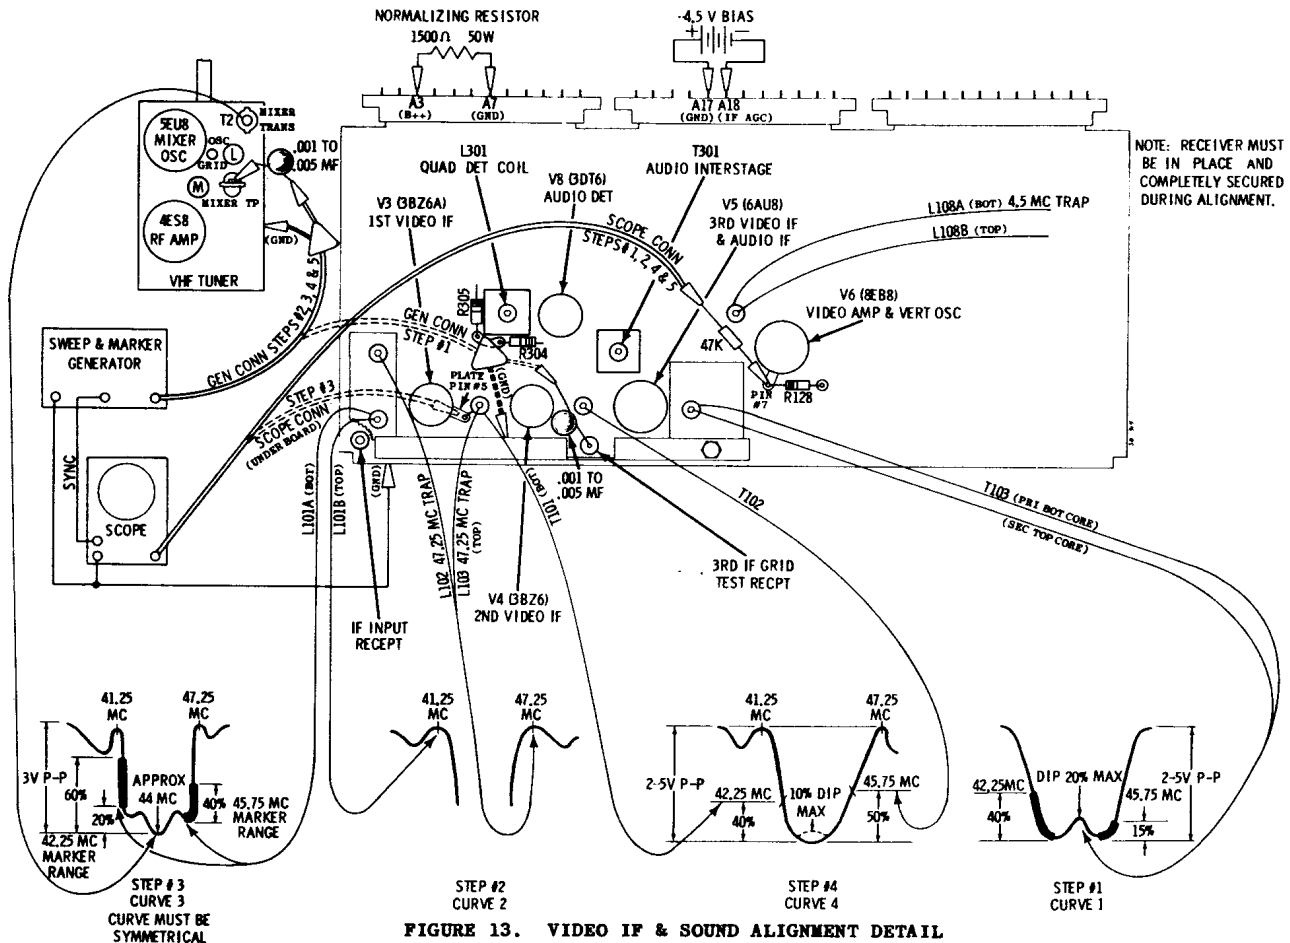

FIGURE 13. VIDEO IF & SOUND ALIGNMENT DETAIL
- Refer to Video IF & Sound Alignment Detail for coil and test point locations (Figure 13).